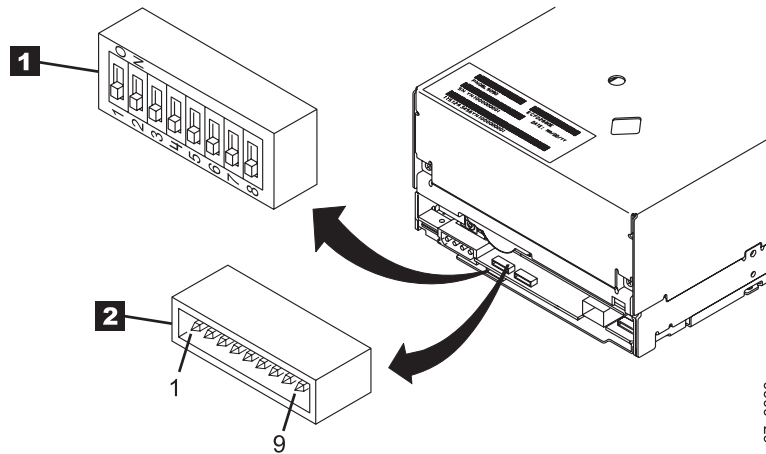

Figure 2-3. Setting the Loop ID and the AL_PA. The feature switches are located on the bottom of the drive.
If Feature Switch 3 on the drive is set to OFF (see **1** in Figure 2-3 on page 2-5), the LID/status connector **2** has the following definition:
2. Locate the LID/status connector on the drive (see 2 in Figure 2-3).
If Feature Switch 3 on the drive is set to 0N (see **1** in Figure 2-3 on page 2-5), the LID/status connector **2** has the following definition:
2. Locate the LID/status connector on the drive (see **2** in Figure 2-3 on page 2-5).